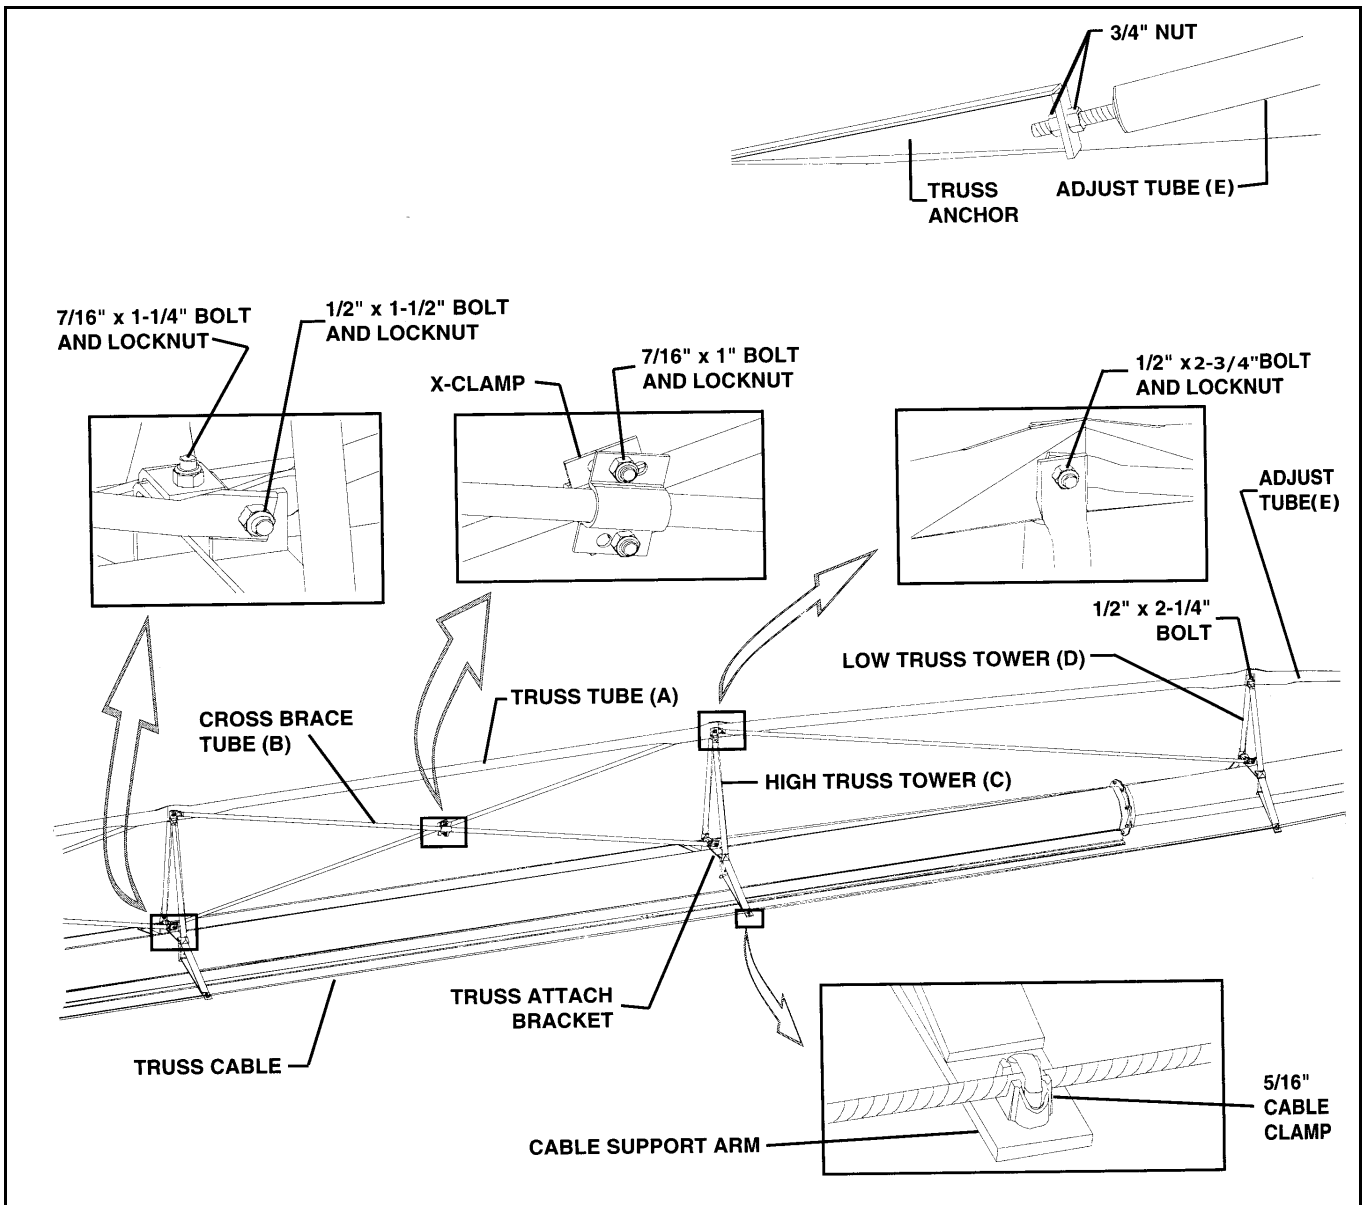

Figure 3.25
When assembling the truss system, **do not tighten** any bolts until all components are in place. Refer to Figure 3.25 on page 37 for correct positioning of the truss components.
3. Loosely attach the truss cables to each cable support arm with a 5/16" cable clamp as shown in Figure 3.25.